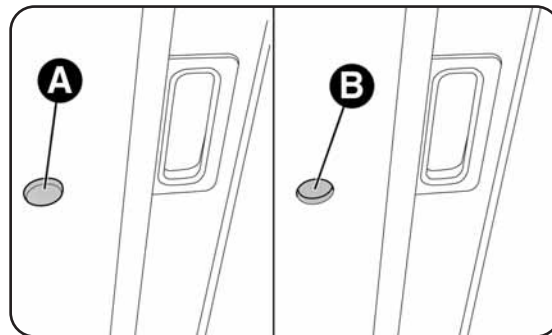

fig. 55
- remove cap A-fig. 55 set between the two sun blinds;